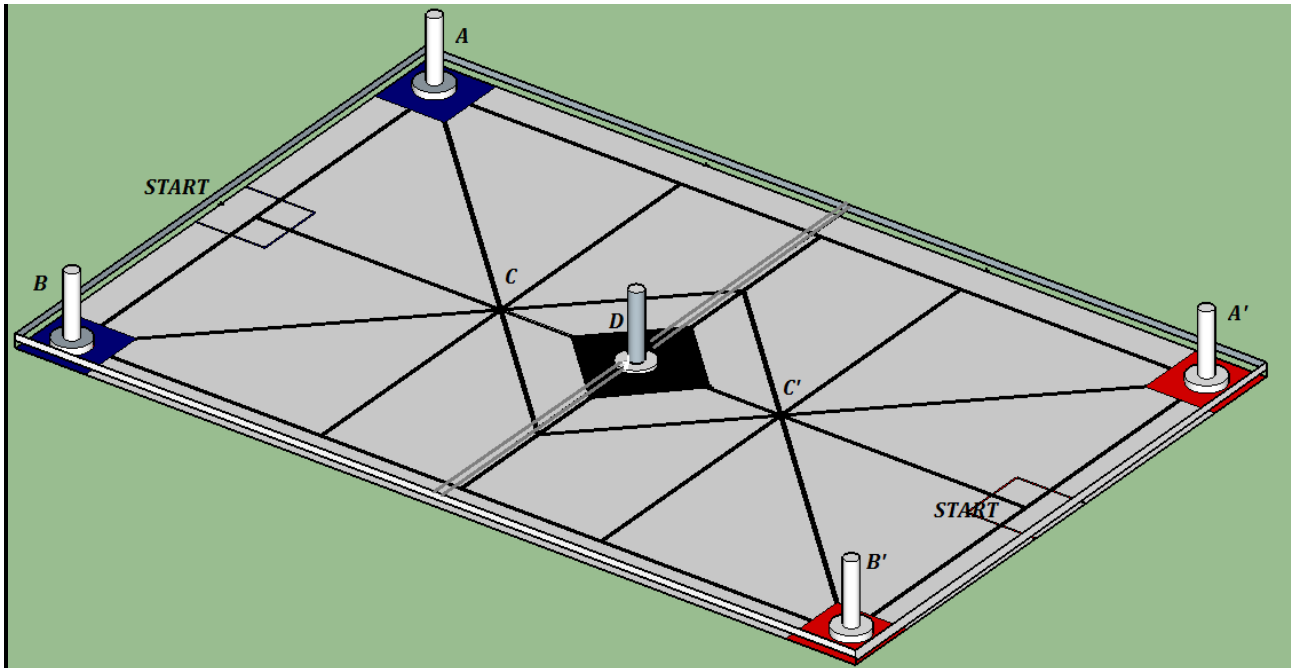
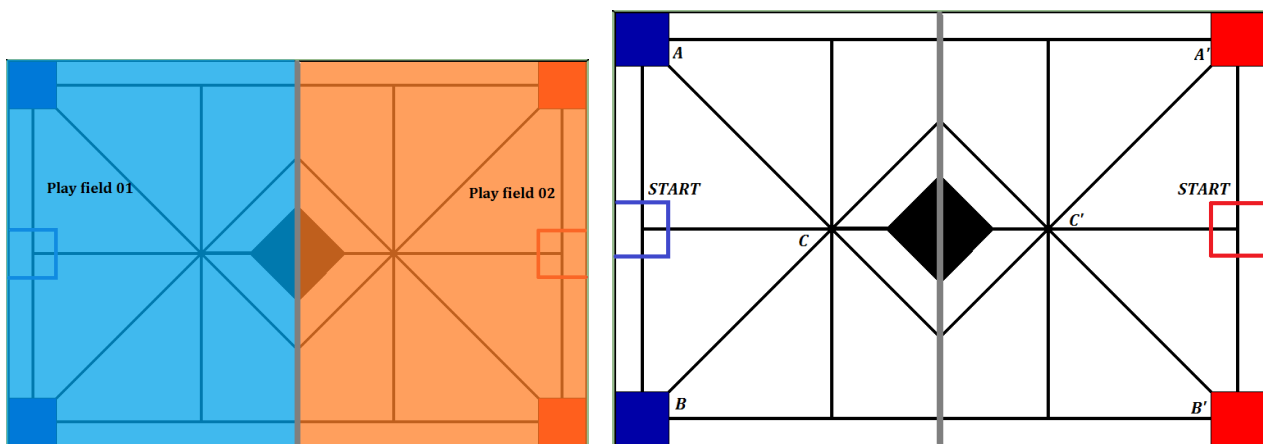

Figure 01: Arena layout - Side View
Figure 02: Arena layout - Top View
- The arena is a 2.44 m X 3.66 m (8 feet × 12 feet) area, divided into two sub-arenas “Play field 01” (coloured blue) and “Play field 02” (coloured red) as illustrated in Figure 01 and Figure 02. Two teams can compete in the arena (one in each play field) at any given time.
- The layout of the guidelines will be as given in Figures 01, 02 and 03. However, exact dimensions of guidelines, will be disclosed at the time of the competition, after all teams have submitted their robots.
- There are 12 cm high poles with 5 cm diameter (2 inches) at four corners of the arena as illustrated in Figure 01, where each team has access to two poles located in their play field.